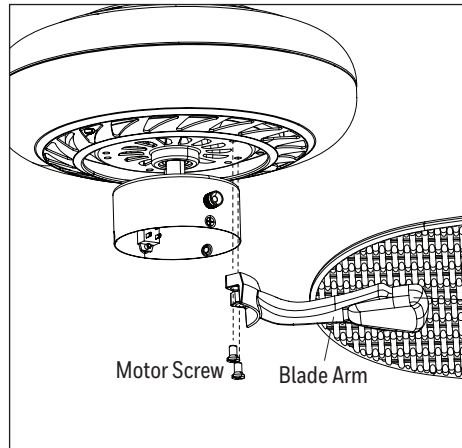

Figure 5.5
- Install the blade arm to the underside of the motor assembly using the ten previously removed motor screws (Figure 5.5). **For INSTALLATION WITHOUT THE LIGHT KIT**, skip to page 8.